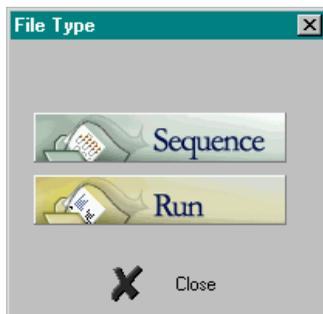

Figure 5-1 File Type Dialog Box
2. In the File Type dialog box (Figure 5-1), click **Sequence**. The Sequence screen opens along with the AA palette screen (Figure 5-2).